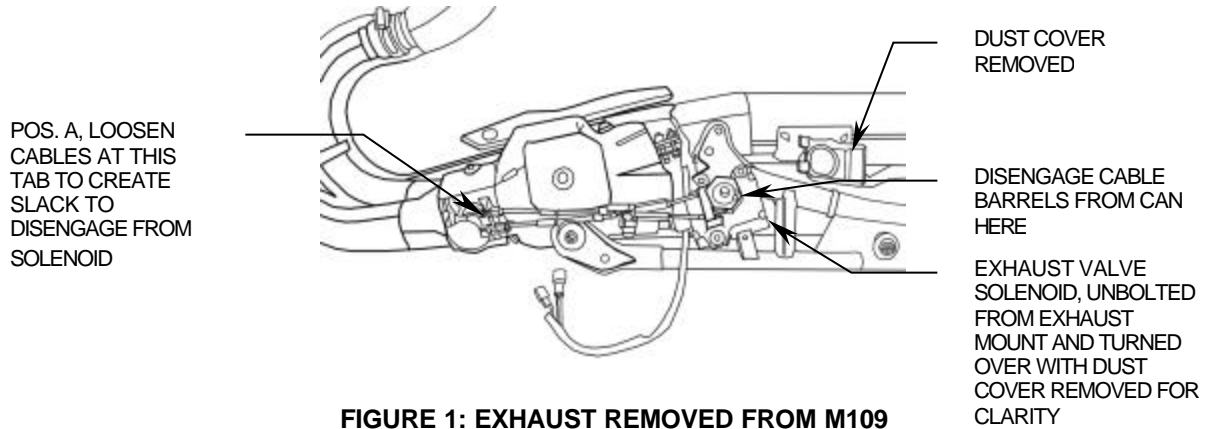

FIGURE 1: EXHAUST REMOVED FROM M109
5. The exhaust valve actuator solenoid must now be removed from the stock exhaust-mounting bracket. To perform this, loosen the two nuts securing each cable to the exhaust valve cable-mounting tab, Position A in Figure 1. Make enough slack in the cables so that the ends of the cables' threaded sheath may be disengaged from the end of the mounting tab. Now remove the two M6 hex head bolts securing the solenoid to the stock exhaust bracket. The stock exhaust mounting bracket, headpipes and muffler and exhaust valve solenoid cables will not be used anymore with the your new Cobra Exhaust System.
6. Remove the dust cover from the solenoid to expose the rotating cam and cables. **DO NOT TRY TO ROTATE THE CAM RELATIVE TO THE ACTUATOR SOLENOID TO REMOVE THE CABLES; DOING SO MAY DAMAGE THE INTERNAL COMPONENTS OF THE SOLENOID.** To remove the cables from the cam, use the slack in the cables obtained in Step 5 to disengage the cable barrels from the cam, see Figure 1. **THE DUST COVER WILL NOT BE REINSTALLED.**